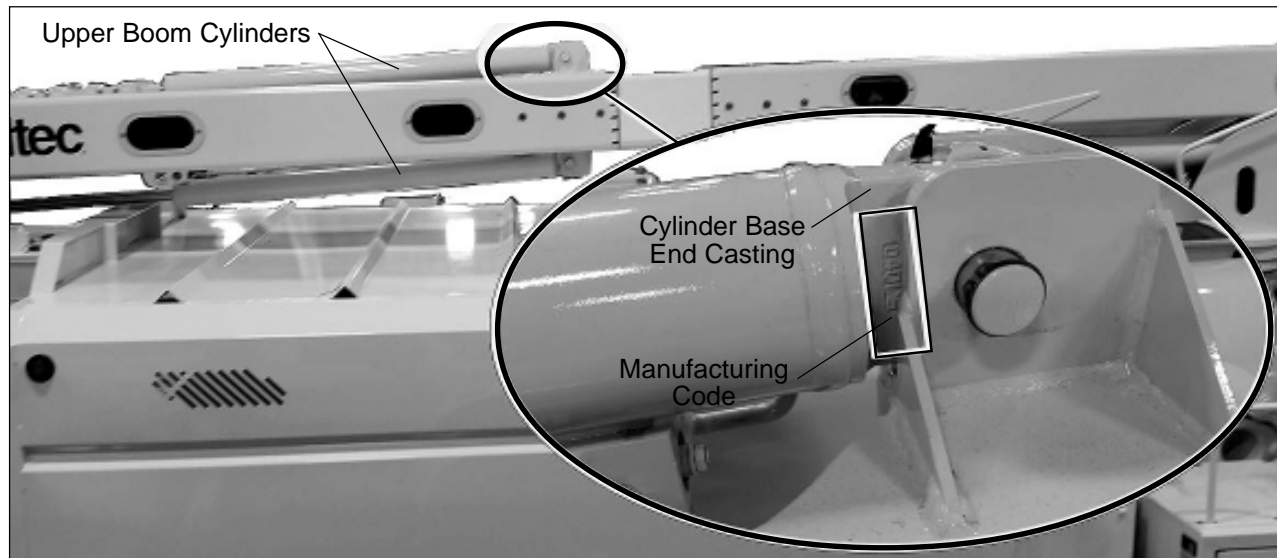

Figure 1 – Cylinder Manufacturing Code Location
2. Both the top and bottom upper boom cylinders must be inspected for the manufacturing code on the base end casting of the cylinder (refer to Figures 1). The code is on one side of the base end cylinder casting on all units. The code starts with D and is followed with four numbers.